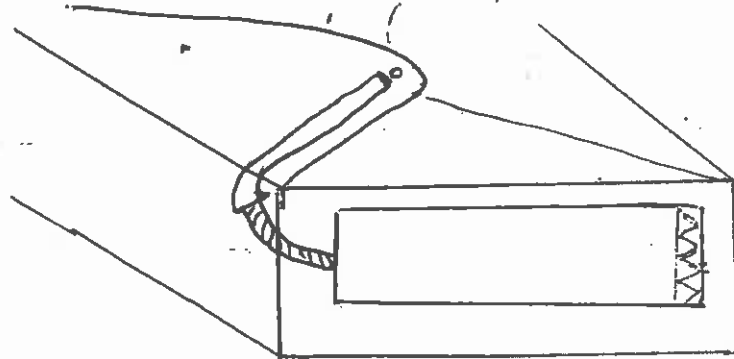

FIG 1
3. Unpick 1" of the end of the webbing sleeve on the side of the container. Unpick 3" of the BOC pocket at the closed end. (Fig 1)